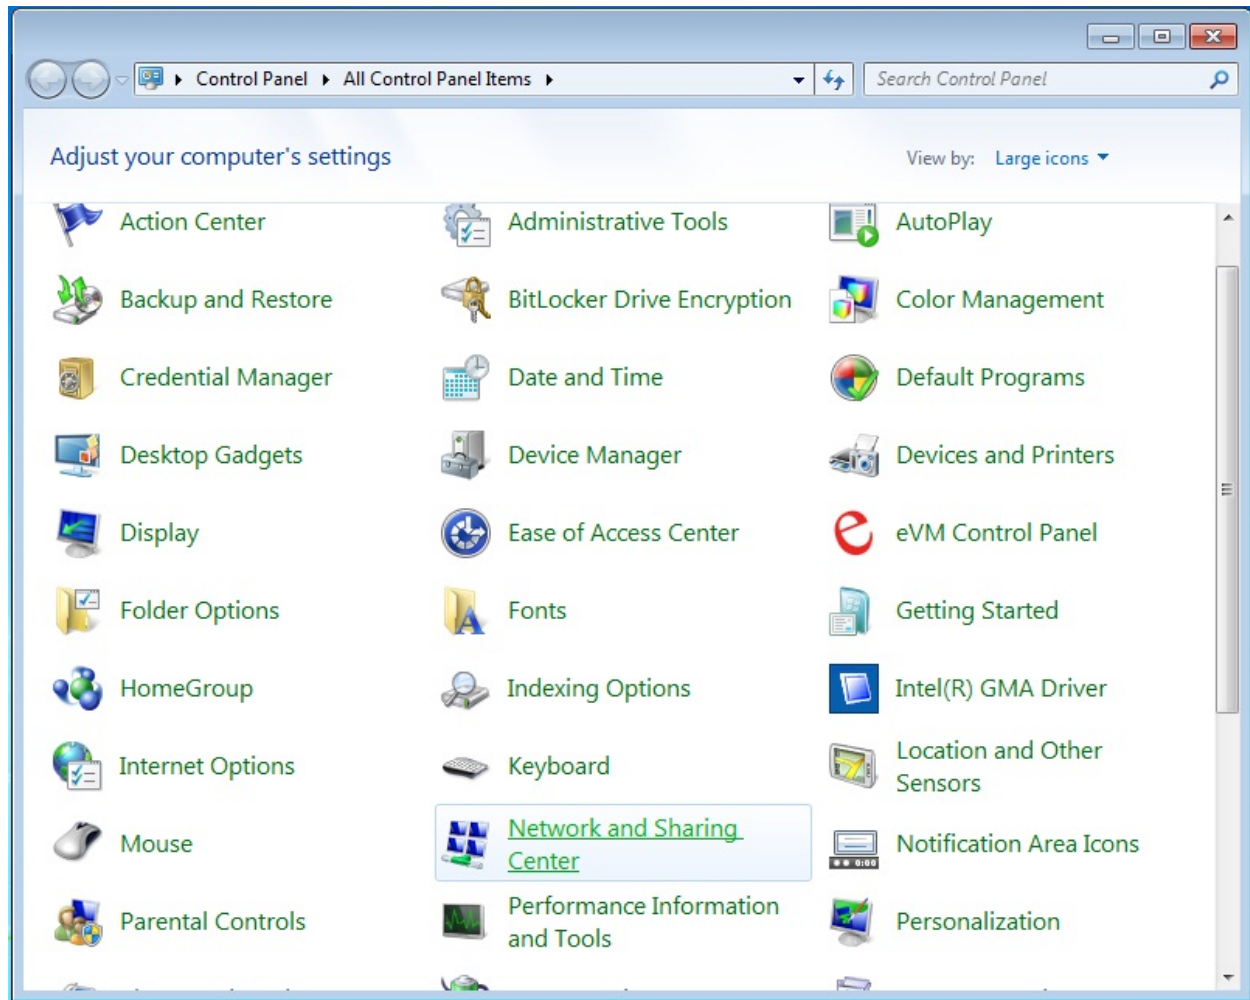

Figure 4.27 - Windows Control Panel, Select Network
1. Open the **Windows Control Panel** and click on **Network and Sharing Center**, Figure 4.27.